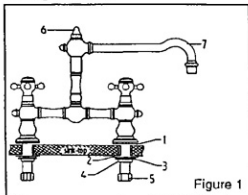

Figure 1
■■■ **Replacement of "O" ring seals in the column (see Figure 1):**
- 1) undo the cap nut (6) using a 20 mm spanner
- 2) lift off the washer and the swivel spout (7)